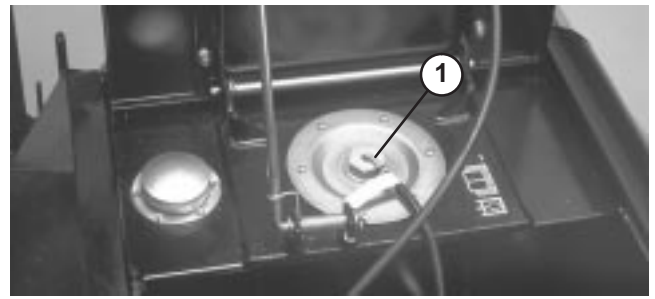

Figure 41
- Clean around reservoir cover (Fig. 41). Remove cover and add hydraulic oil until it is even with arrows on sight glass (Fig. 40). Refer to Checking the Hydraulic Oil.